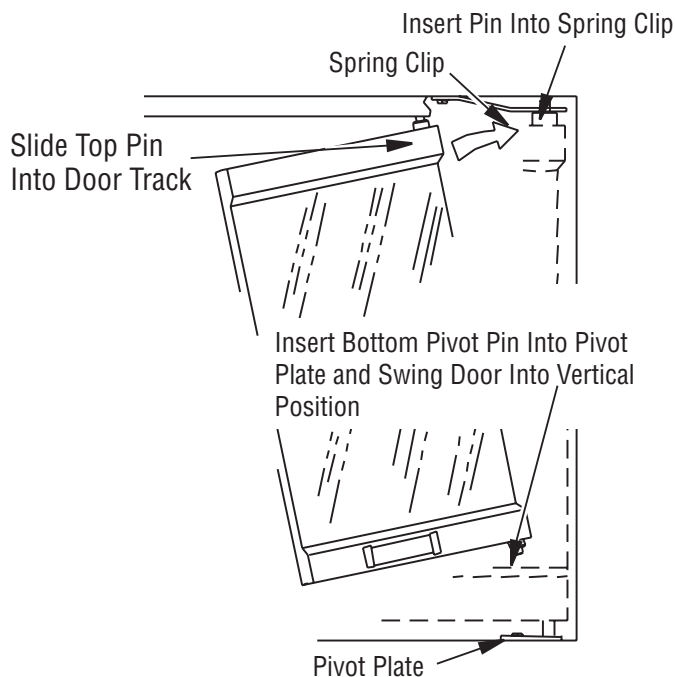

Figure 32 - Installing Optional Glass Door
2. With handle facing center of firebox opening, insert lower pivot pin on glass door panel into hole in pivot plate on bottom edge of fireplace opening (see Figure 32).
4. Tilt glass assembly fully vertical until outer pivot pin snaps into mounting hole in upper spring clip (see Figure 32).